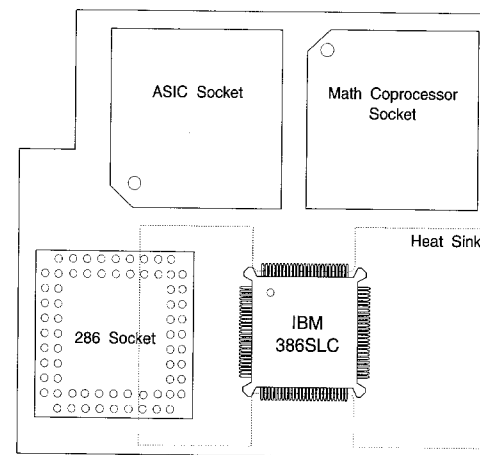
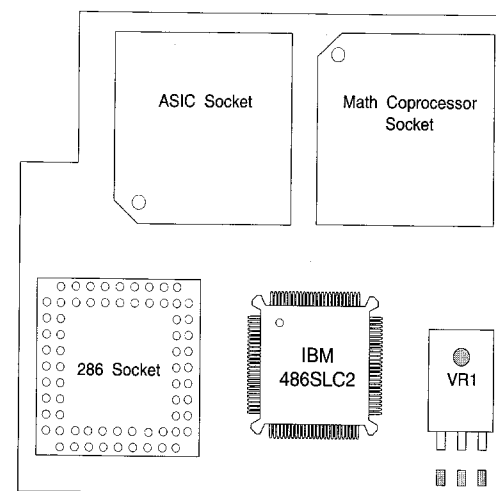

Figure 16. Top View of the 386SLC Cached Processor Upgrade Card for the IBM PS/2 Model 50/60, (see **BOTTOM** of upgrade card for location of Pin #1).
Figure 17. Top View of the 486SLC2 Cached Processor Upgrade Card for the IBM PS/2 Model 50/60, (see **BOTTOM** of upgrade card for location of Pin #1).
12. If you are adding the math co-processor, identify pin 1 of the math co-processor chip, (designated by either a beveled edge, dot, notch or half-moon). Match this corner to the bevelled edge for the co-processor on the 386SLC Cached Processor Upgrade Card, (see figure 16), or the 486SLC2 Cached Processor Upgrade Card, (see figure 17). Carefully place the co-processor into the socket located on the upgrade card being sure to align the pins and the connector. Firmly press the module into place. (The pins of the module are easily damaged and must be aligned with the connector before pressing the module into place.)